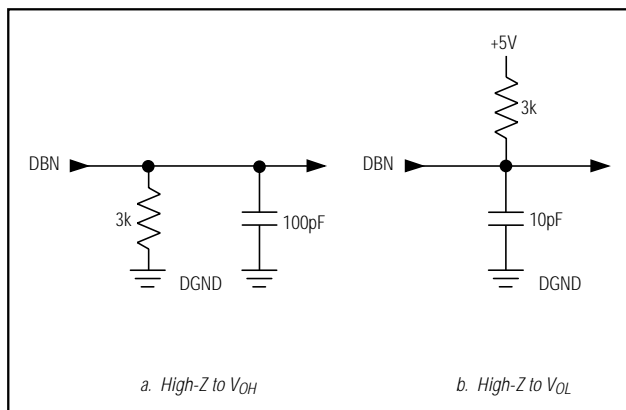

Figure 2. Load Circuits for Data-Hold Time Test
**Note 7:** Defined as the time required for the data lines to change 0.5V when loaded with the circuits of Figure 2.